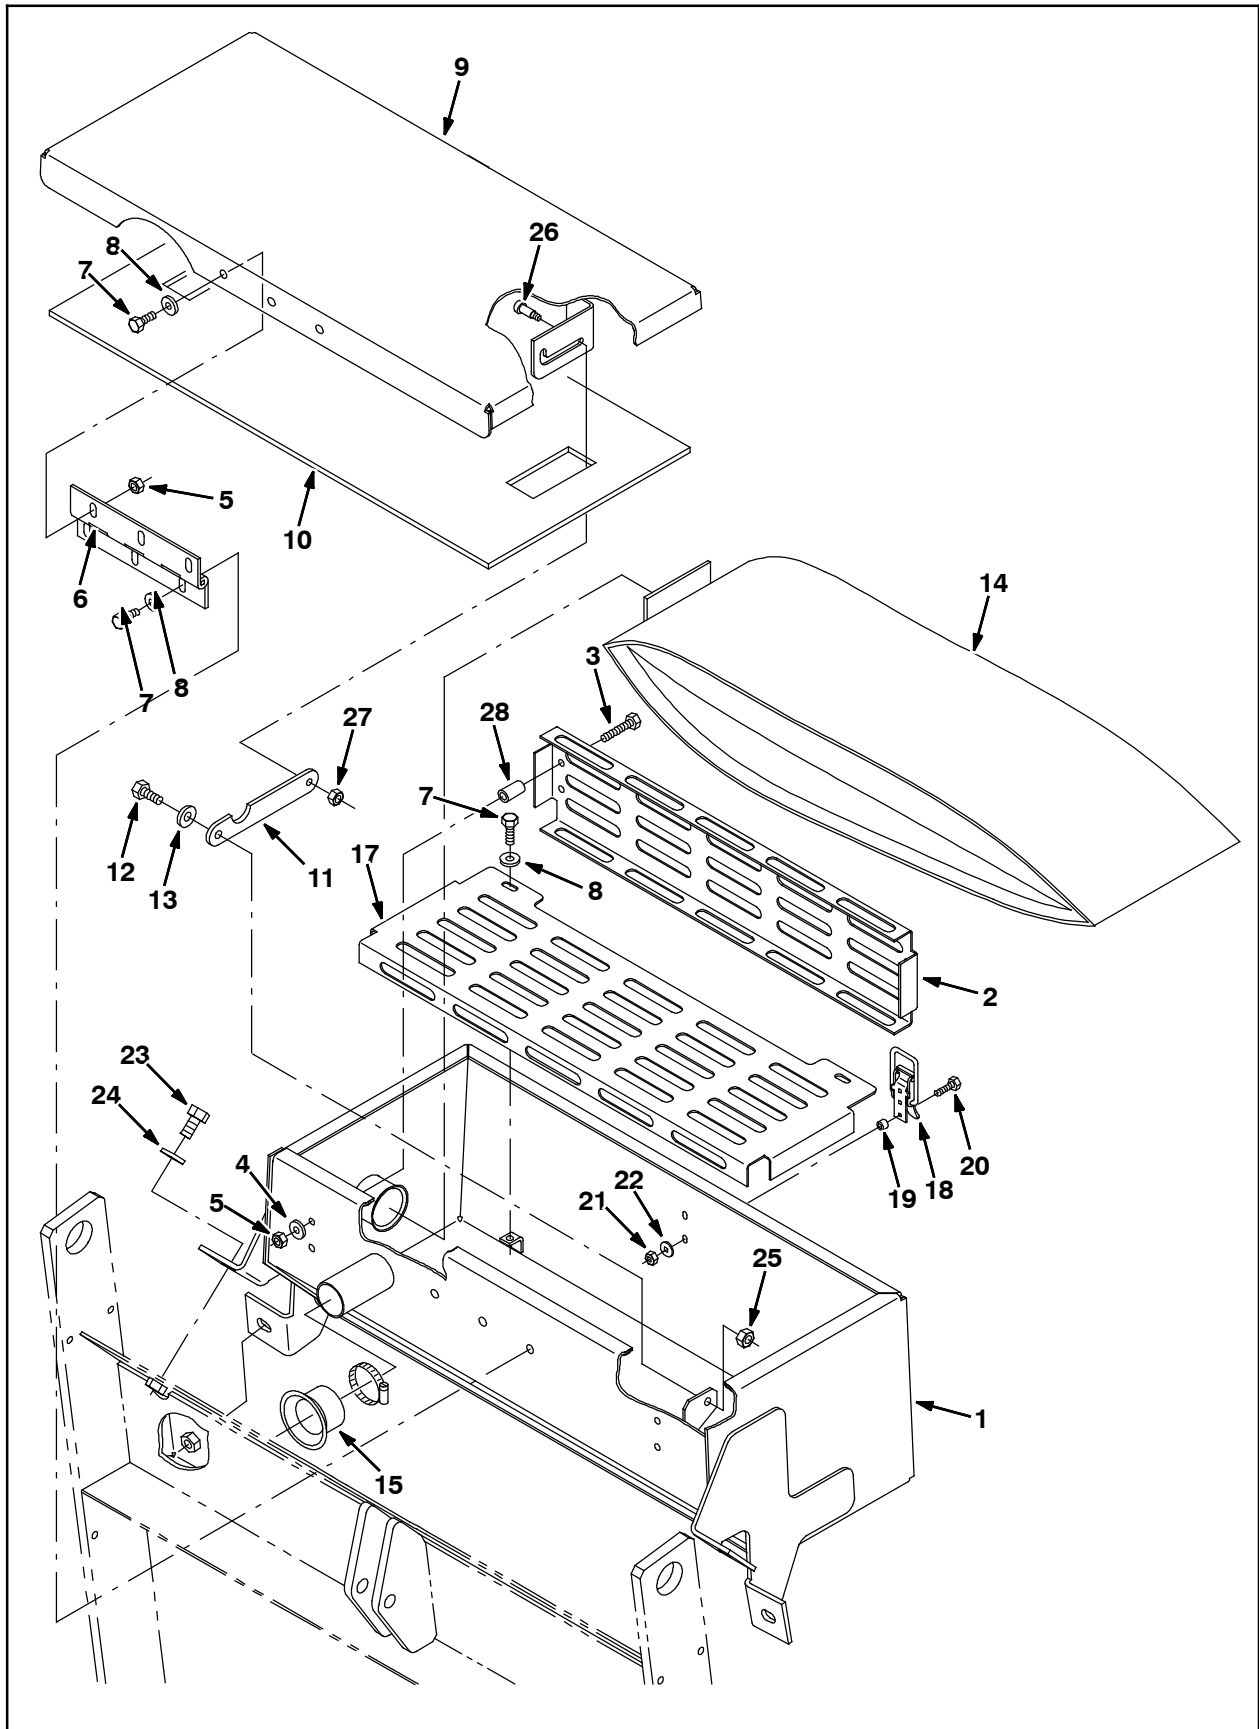

FIG. 3
13. Use four hex screws (23) and four washers (24) to install the vacuum box sub assembly (1- 22) to the machine. (Fig. 3)
14. Use the inlet seal (15) and clamp (16) to connect the vacuum box sub assembly (1- 22) to the vacuum fan sub assembly. (Fig. 3)
15. Ensure the vacuum bag (14) is properly installed over the inlet pipe inside the vacuum box. (Fig. 3)
16. Ensure the vacuum box lid (9) is properly secured with latch (18). (Fig. 3)
Bill Of Materials For Wand Kit, Vacuum, 36vdc, CI [6200E] - 383887 - Fig. 3